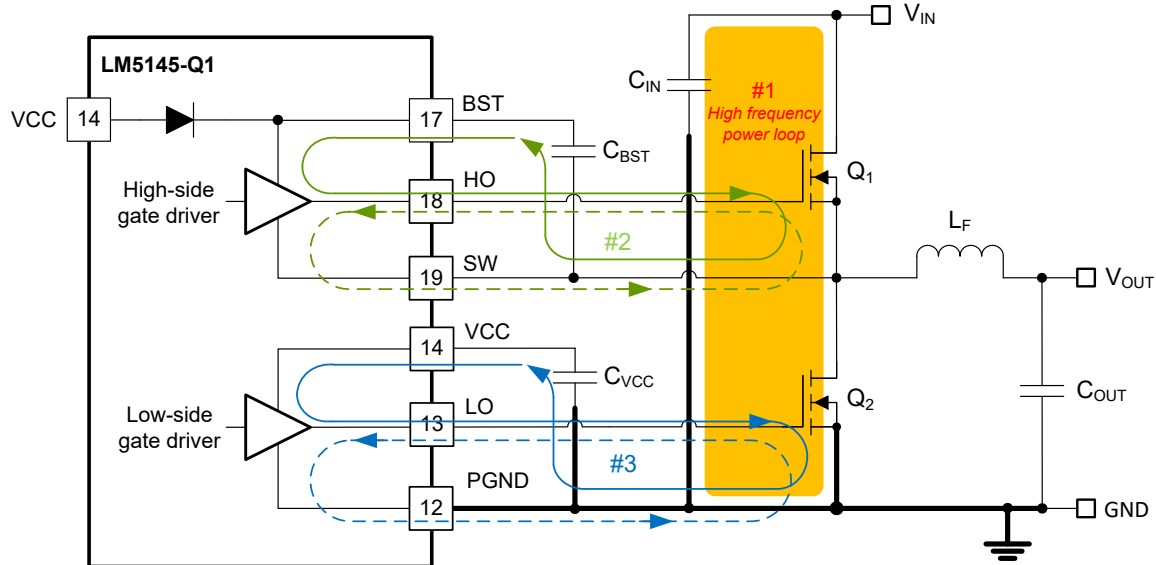

Figure 11-1. DC-DC Regulator Ground System With Power Stage and Gate Drive Circuit Switching Loops
Proper PCB design and layout is important in a high-current, fast-switching circuits (with high current and voltage slew rates) to assure appropriate device operation and design robustness. As expected, certain issues must be considered before designing a PCB layout using the LM5145-Q1. The high-frequency power loop of the buck converter power stage is denoted by #1 in the shaded area of Figure 11-1. The topological architecture of a buck converter means that particularly high di/dt current flows in the components of loop 1, and it becomes mandatory to reduce the parasitic inductance of this loop by minimizing its effective loop area. Also important is the gate drive loops of the low-side and high-side MOSFETs, denoted by 2 and 3, respectively, in Figure 11-1.
- Loop #1: The most important loop to minimize the area of is the path from the input capacitor or capacitors through the high- and low-side MOSFETs, and back to the capacitor or capacitors through the ground connection. Connect the input capacitor or capacitors negative terminal close to the source of the low-side MOSFET (at ground). Similarly, connect the input capacitor or capacitors positive terminal close to the drain of the high-side MOSFET (at V_{IN}). Refer to loop #1 of Figure 11-1.
- The SW pin connects to the switch node of the power conversion stage and acts as the return path for the high-side gate driver. The parasitic inductance inherent to loop #1 in Figure 11-1 and the output capacitance (C_{OSS}) of both power MOSFETs form a resonant circuit that induces high frequency (> 100 MHz) ringing on the SW node. The voltage peak of this ringing, if not controlled, can be significantly higher than the input voltage. Ensure that the peak ringing amplitude does not exceed the absolute maximum rating limit for the SW pin. In many cases, a series resistor and capacitor snubber network connected from the SW node to GND damps the ringing and decreases the peak amplitude. Provide provisions for snubber network components in the PCB layout. If testing reveals that the ringing amplitude at the SW pin is excessive, then include snubber components as needed.
- Loop 2: high-side MOSFET, Q_1 . During the high-side MOSFET turnon, high current flows from the bootstrap (boot) capacitor through the gate driver and high-side MOSFET, and back to the negative terminal of the boot capacitor through the SW connection. Conversely, to turn off the high-side MOSFET, high current flows from the gate of the high-side MOSFET through the gate driver and SW, and back to the source of the high-side MOSFET through the SW trace. Refer to loop #2 of Figure 11-1.
- Loop 3: low-side MOSFET, Q_2 . During the low-side MOSFET turn-on, high current flows from the VCC decoupling capacitor through the gate driver and low-side MOSFET, and back to the negative terminal of the capacitor through ground. Conversely, to turn off the low-side MOSFET, high current flows from the gate of the low-side MOSFET through the gate driver and GND, and back to the source of the low-side MOSFET through ground. Refer to loop #3 of Figure 11-1.